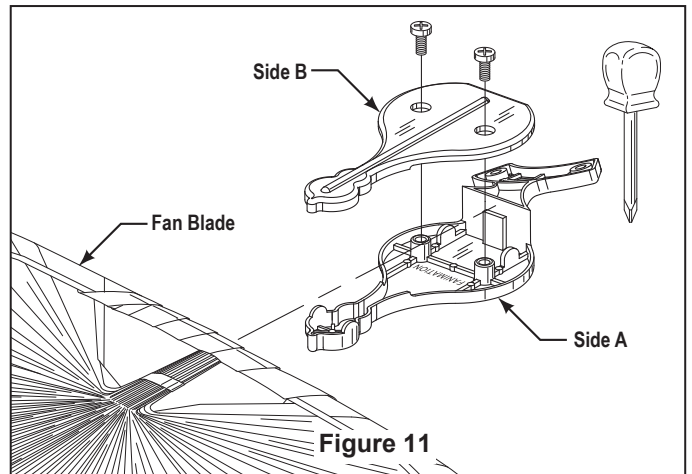

Figure 11
1. Lay side "A" of the blade holder on a flat surface with the inside of the blade holder facing up. This is the side with the threaded posts and pitched foot (Figure 11).